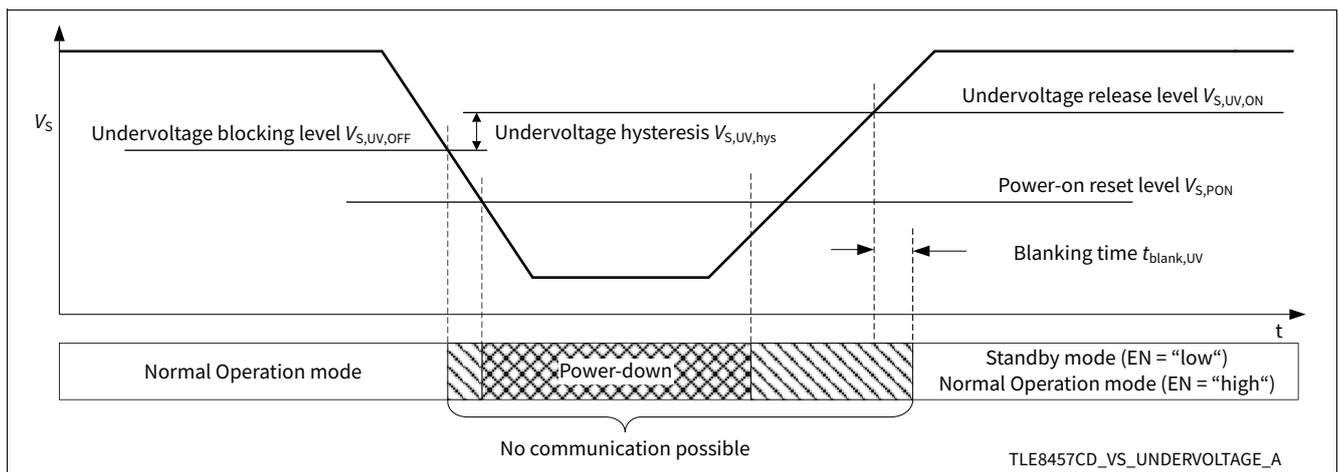

Figure 10 V_S undervoltage detection
- When the power supply V_S drops below the power-on reset level $V_{S,PON}$ the TLE8457C / TLE8457D not only blocks the transceiver communication, it also changes the operation mode to standby mode after recovery of V_S , see Figure 10. In standby mode the TLE8457C / TLE8457D indicates a power-up event on the RxD pin. The power-on reset detection is active in all operation modes.